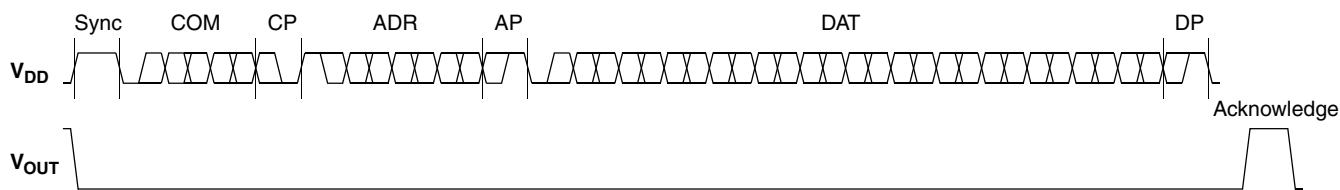

Fig. 4-2: Telegram for coding a Write command
After the AP bit, follow 14 Data bits (DAT) and the Data Parity bit (DP). If the telegram is valid and the command has been processed, the sensor answers with an Acknowledge bit (logical 0) on the output (see Fig. 4-2).